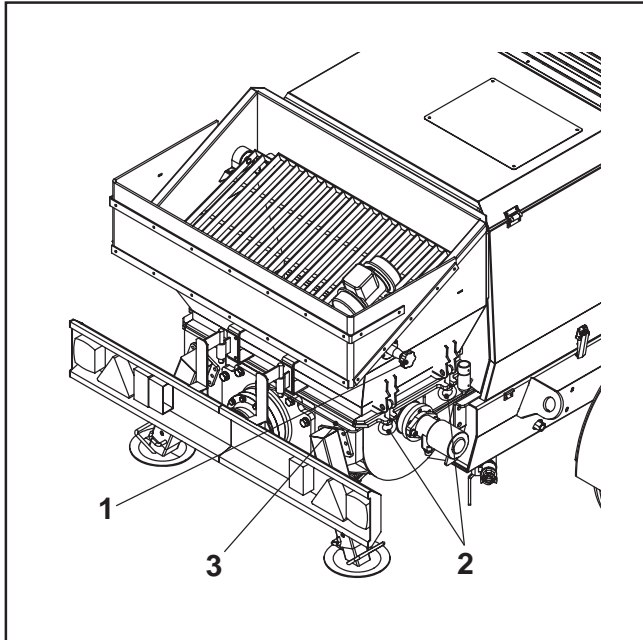
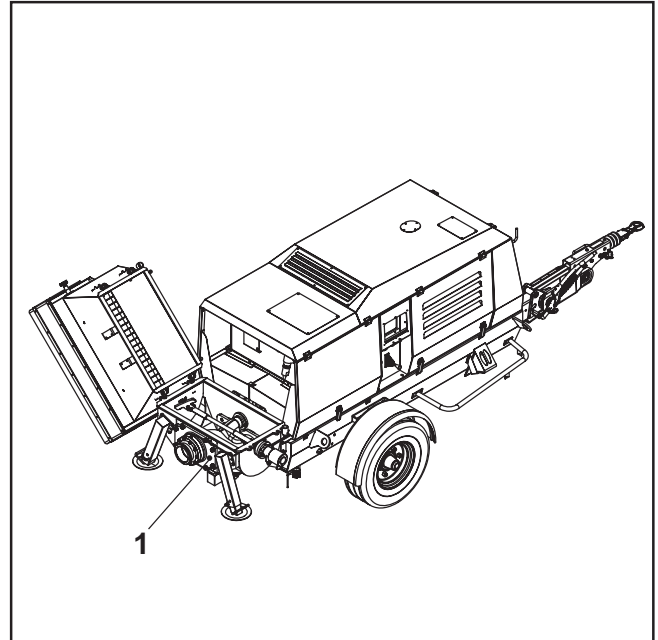

FIG.39
FIG.40
We recommend overturning the upper hopper: ensure the grid is blocked using the device (FIG.39-REF.1), loosen the two ring locking nuts (FIG.39-REF.2) and overturn the hopper up to blocking position, for safer and easier operation (FIG.40).
- ensure the grid is blocked using the device (FIG.39-REF.1),
- loosen the two ring locking nuts (FIG.39-REF.2) and overturn the hopper up to blocking position (FIG.40).
- Remove the rigid greasing duct (FIG.39-REF.3) located on the greasing flange.
- Loosen the 8 TE screws to remove the delivery flange (FIG.40-REF.1).